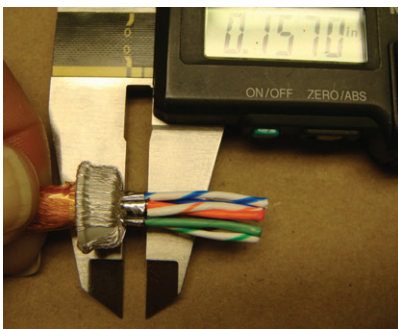

Figure 20: Cutting the foil tape
9. Cut and remove the foil tape at 0.157 inches (Figure 20).